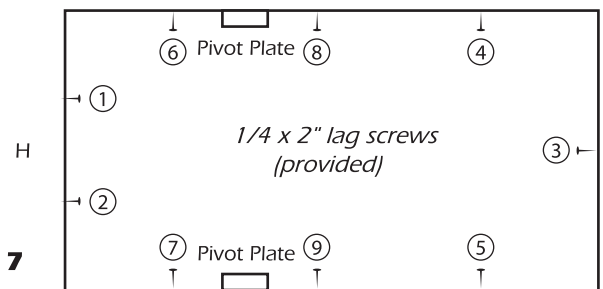

Fig. 7
5. Secure using only 1/4 x 2" lag screws (provided) through pre-drilled installation holes. (See Figure 7.) **The use of sheet rock screws, deck screws or finish nails are prohibited, which can cause the stairway to suddenly fall from the opening possibly causing serious bodily injury.**
First secure the header end to the jamb (end with the piano hinge – holes 1 & 2). Then secure the well end (hole 3). Utilizing pre-drilled holes provided in frame, continue to secure as many holes as possible before opening door panel. (See Fig. 7 for location of pre-drilled holes in frame.)